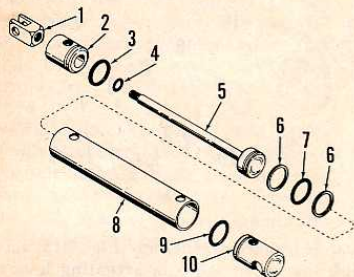

Fig. C17—Exploded view of model F30 hydraulic lift cylinder used on some tractors.
OVERHAUL (F30). Remove the street elbows from cylinder and drain the cylinder. Pull outward on clevis (1—Fig. C17) and remove rod guide and rod and piston assembly (1 thru 6). Unscrew clevis from rod (5), then remove guide (2). Remove cylinder head (10) from tube (8). Remove and discard all "O" rings and back-up rings.